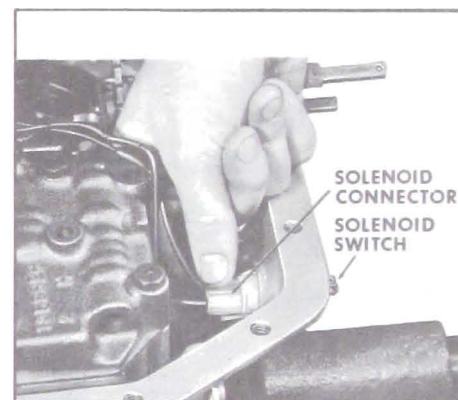

Figure 5-107
1. Disconnect solenoid connector from solenoid switch. See Figure 5-107.